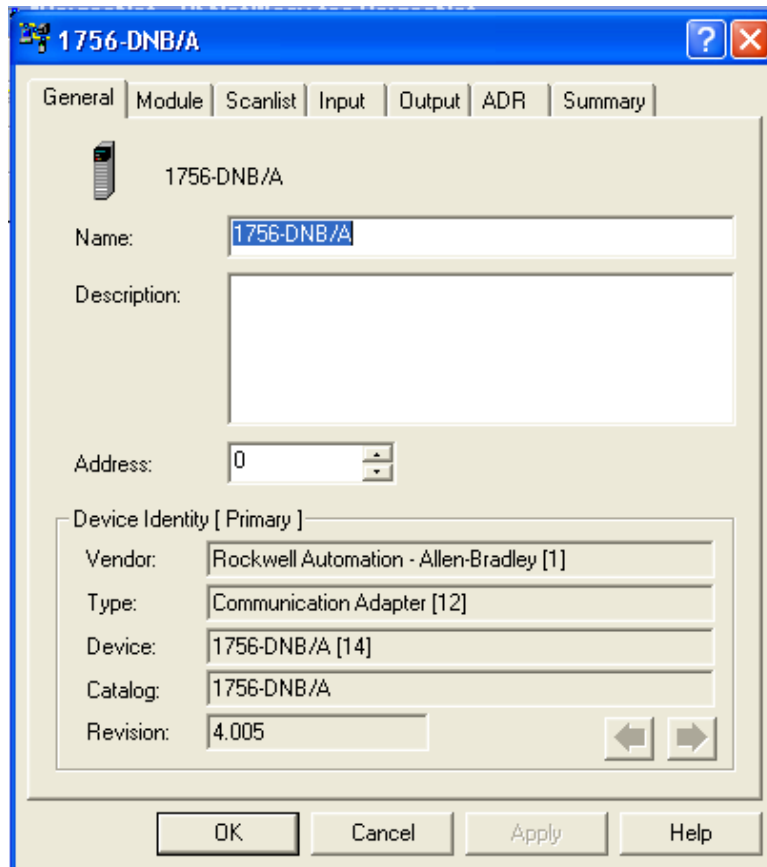

Figure 4-22: Scanner Properties Dialog: Initial View
6. The scanner's properties dialog box will appear, as in Figure 4-22.